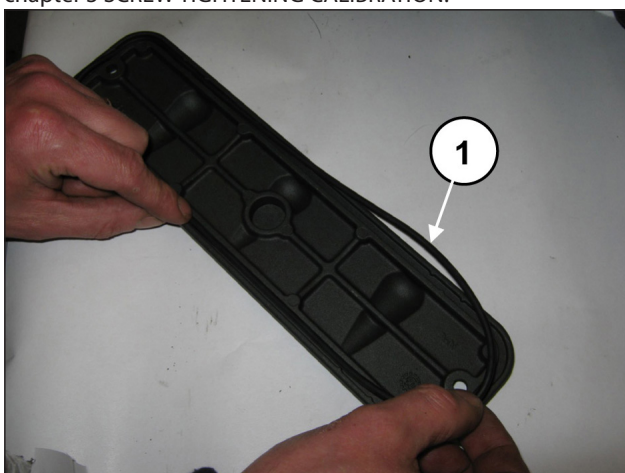
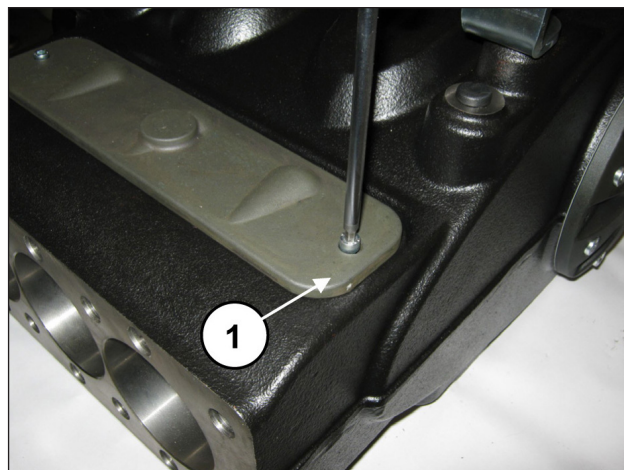

Fig. 97
Fig. 98
Apply the inspection covers with O-rings (pos. ①, Fig. 97) and tighten with 2 M6x14 screws (pos. ①, Fig. 98) and 2 M6x40 screws.